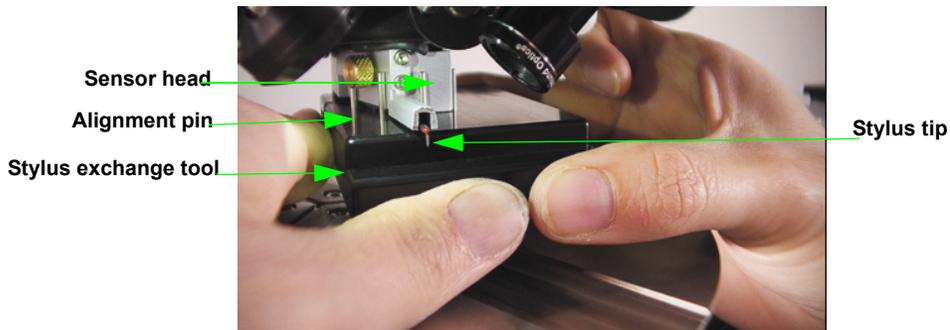

Figure 3-24: Stylus Exchange Tool Flush with the Bottom of the Sensor Head
- 7 Place the stylus exchange tool underneath the sensor head on the DektakPro profiler. Holding the stylus exchange tool by the sides, align the alignment pins on its top with the outside of the front of the sensor head (see Figure 3-24). Gently push up until the tool is flush with the bottom of the sensor head. The ridge at the back of the stylus exchange tool must roughly line up with the back of the sensor head.